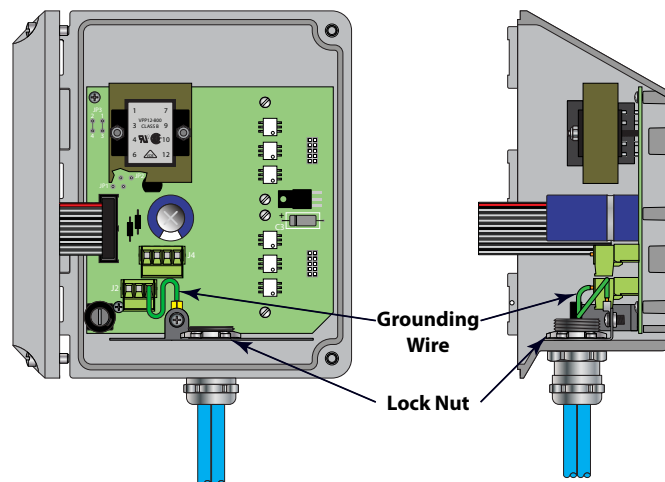

Figure 14: Transducer connections
2. Connect the wires to J4 at the corresponding screw terminals in the transmitter. See *Figure 14* or the Wiring Diagram located inside the door of the transmitter.